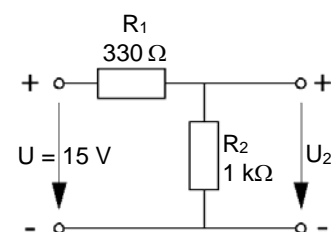

Fig. 4.1.2.1: Voltage divider
- For the circuit in Fig. 4.1.2.1, calculate the output voltage U₂ and the voltage U₁.
Assemble the circuit in Fig. 4.1.2.1 on the Electronic Circuits Board. Apply a voltage of $U = 15\text{ V}$ to the input of the voltage divider (check the input voltage on a multimeter).